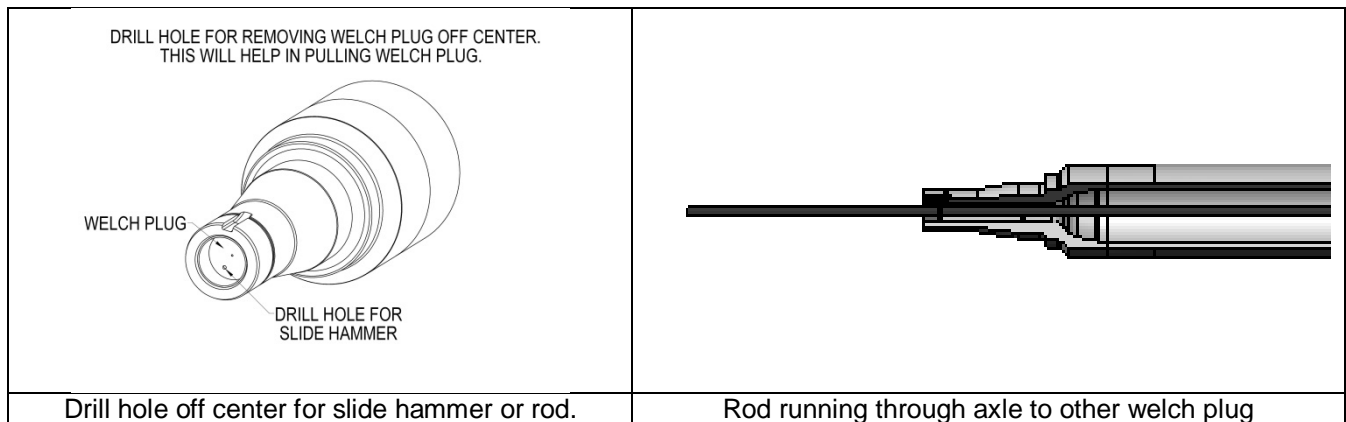

Figure 2
- Insert a long steel rod into the 1/2" hole until it hits the back side of the welch plug in the opposite spindle. Steel rod must be longer than the length of the axle. Use a hammer to hit the rod and knock the welch plug out. Pull rod out and repeat procedure on the plug with hole with the 1/2" hole in it. Repeat procedure for second axle. See Figure 2